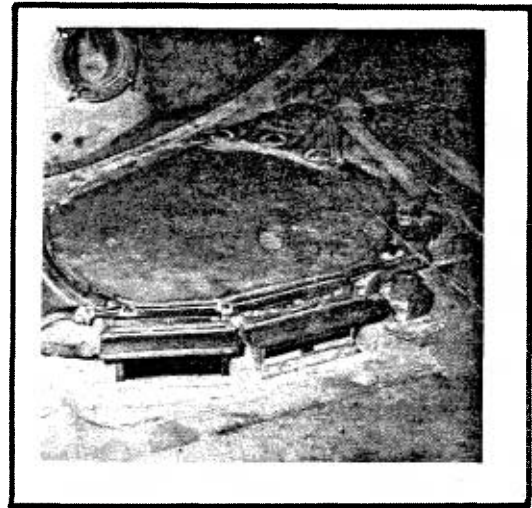
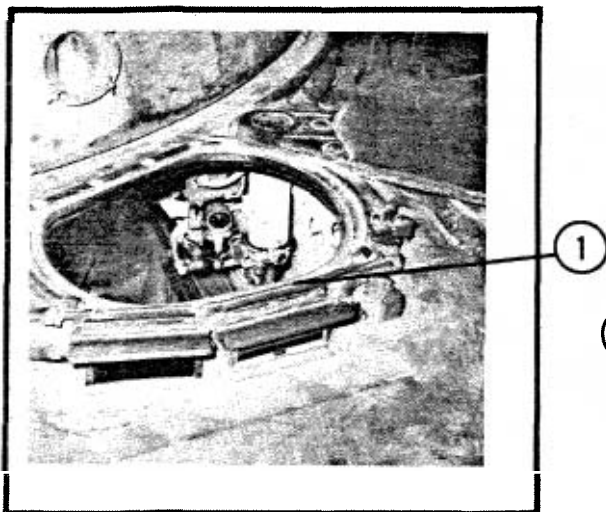
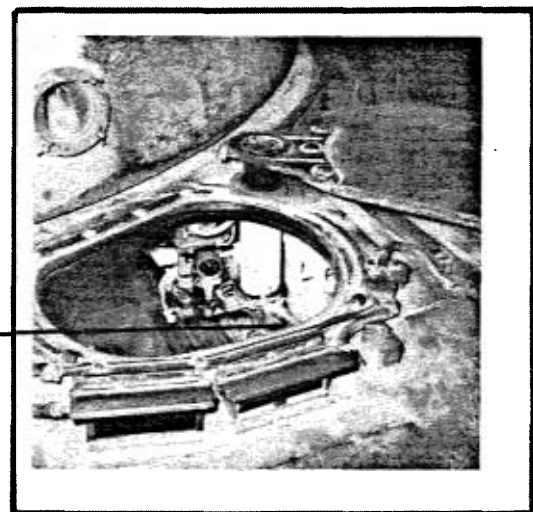
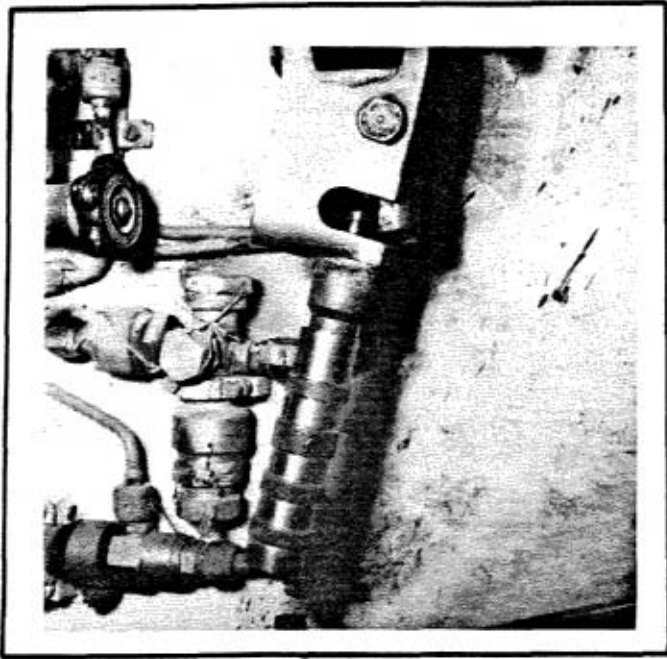

FIG. 2-9. DRIVER'S HATCH
FIG. 2-10. OPEN-AND-DOWN
FIG. 2-11. OPEN-AND-UP
FIG. 2-12. HATCH HANDLE
c. Driver's Hatch (Fig. 2-9) The driver's hatch has three possible positions: Closed, open-and-up and open-and-down. To lock the driver's hatch in the closed position, pull out on the hatch lever and rotate it to the right. Place the lever in a perpendicular position to the driver's hatch shaft and rotate the lever and hatch back towards the compressed air bottles. Push the handle down and towards the hull wall until it locks (Fig. 2-12). This closed position is used whenever the turret is placed in power operation. The hatch has a microswitch that will not complete the electric circuit of the turret unless the hatch is closed (see paragraph 3-11). To put the hatch in the open-and-up position, pull out and rotate the hatch handle, moving it on a horizontal axis towards the front of the tank until the pin catches in the hole (Fig. 2-11). To put the hatch in the open-and-down position, proceed as for the open-and-up position. Upon reaching the position where the pin would engage the hole, rotate the handle along the left hull from the front of the tank to the rear until it engages as it did for the closed position (Fig. 2-10). This position is recommended for maximum safety whenever the tank is driven with the hatch open.